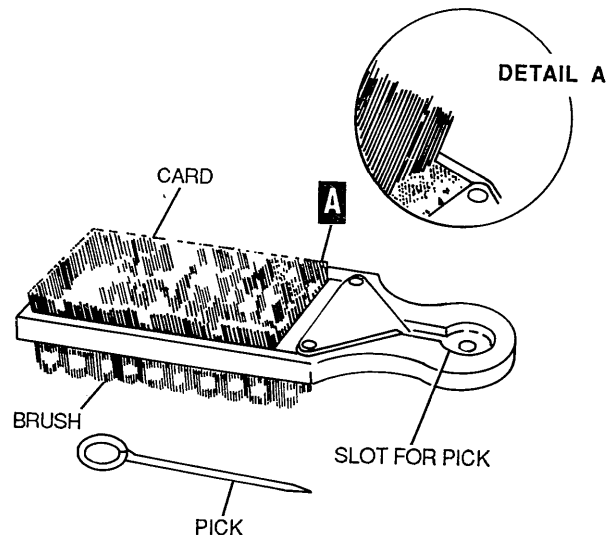

Figure 4-79. File Cleaner
- (1) Break in a new file as discussed in paragraph 4-11 d(1).
- (2) Clean files using the file cleaner shown in figure 4-79.
(3) Never strike the file against a vise or other object to remove filings. Use the file cleaner.
(4) Do not oil files. This will cause the file to slide across the work, preventing efficient cutting.
(5) Wrap each file in a waterproofed barrier wrapping paper. Place the files in racks or boxes so that the faces or edges of the files will not touch each other.